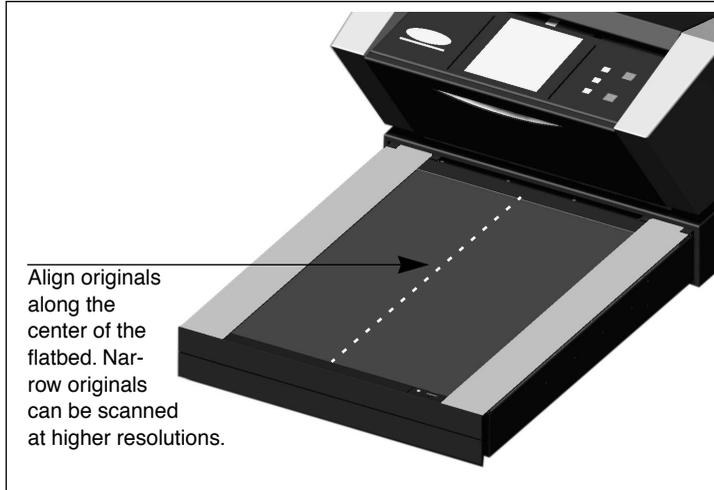

Figure 7: *Aligning originals on the flatbed*
4. Position your original (or originals) on the electrostatic plate, using the printed markings as a guide. Note that by placing your originals along the center of the plate, you will be able to use the highest possible resolution setting, which is dependent on the width of your original (see Figure 7).
5. Position your originals on the bottom glass plate. Note that by placing your originals along the center of the plate, you will be able to use the highest possible resolution setting, which is dependent on the width of your original (see Figure 7).